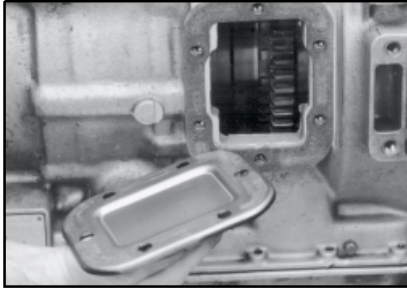

Figure 1
1. Remove the P.T.O. aperture cover plate (Fig 1).